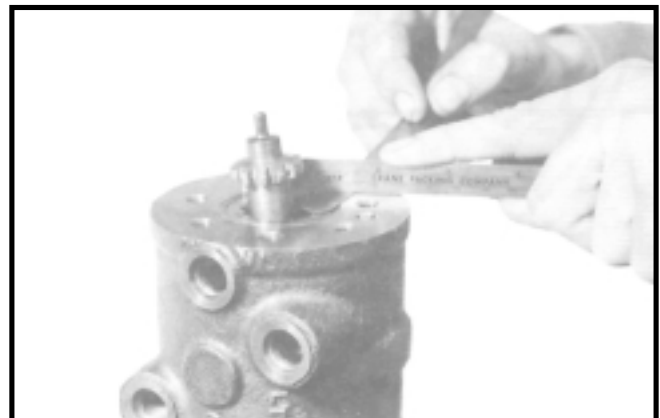

Figure HGA-21
- 16b. Re-assemble as in "a" above using the required new parts. After torquing the four screws (6) revolve unit in vise so that the input shaft is pointing downward. In order to determine that the unit is shimmed correctly, the drive link (30) must be in its proper position. To do this, grasp the input shaft (16), pull downward, and prevent rotation. Engage drive link splines in spool (22) and rotate to position spool essentially flush with end of housing (25). Remove drive link and orient drive link slot to engage torsion bar needle roller (21) and insert drive link. Observe relationship of spool end to body. The valve spool must protrude $.020 \pm .0025$ from the adjacent counterbore surface. If within spec. no additional shimming required. If not within $.0025$, add or remove shims (9) until this requirement is satisfied repeating assembling steps as outlined in "a" above. (See Figure HGA-21).